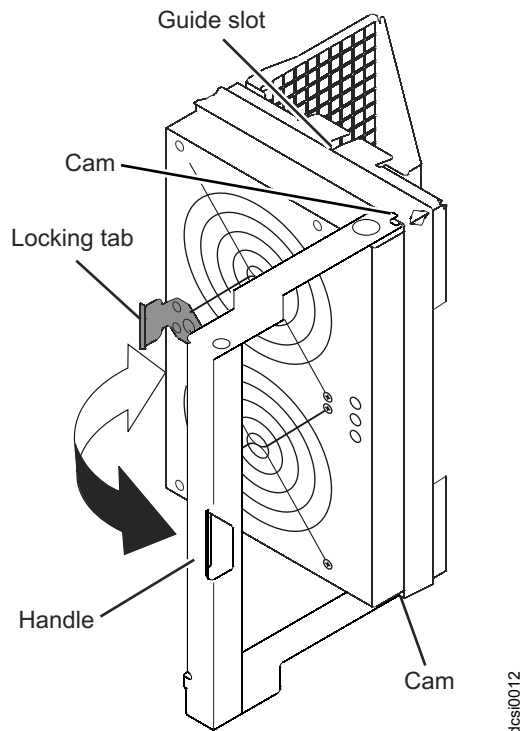

Figure 82. Removing a fan assembly
- a. At the rear of the storage expansion enclosure, remove the fan assembly (see Figure 82) by pressing on the locking tab holding the fan assembly handle in place; then, pull the fan assembly handle toward you.